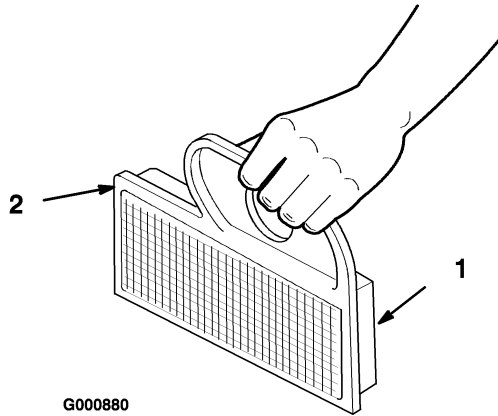

Figure 27
- A. Lightly tap the element on a flat surface to remove dust and dirt (Figure 27).